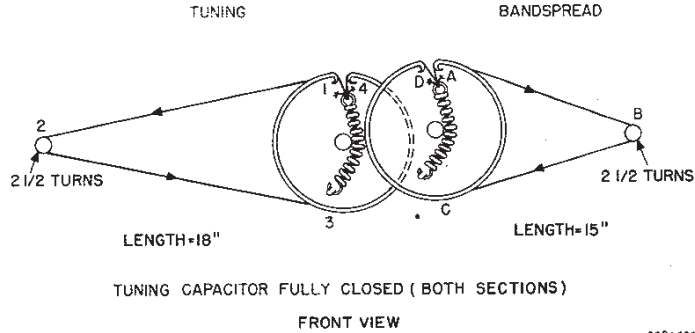

Fig. 2. Dial Cord Stringing Diagram
**DIAL CORD STRINGING** - Refer to Fig. 2 for the stringing diagram. Both sections of the tuning gang should be fully meshed. To restring the TUNING dial cord, tie one end of an 18 inch length of 30 lb. dial cord to the dial spring at 1 on the drive pulley. Follow the stringing sequence 1 through 4. At 4, stretch the spring and tie the cord securely to the spring. Cut off the excess cord and apply a drop of quick drying cement to the knot.